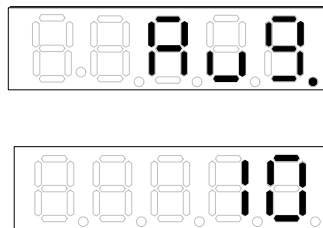

Figure 4-18 Setting Avg and the average number
3. In AC voltage parameter display a blinking pattern will appear. Use \uparrow , \downarrow to select Avg and press **Enter/Trig** to save the setting and go to average number setting display as Figure 4-18 shows.